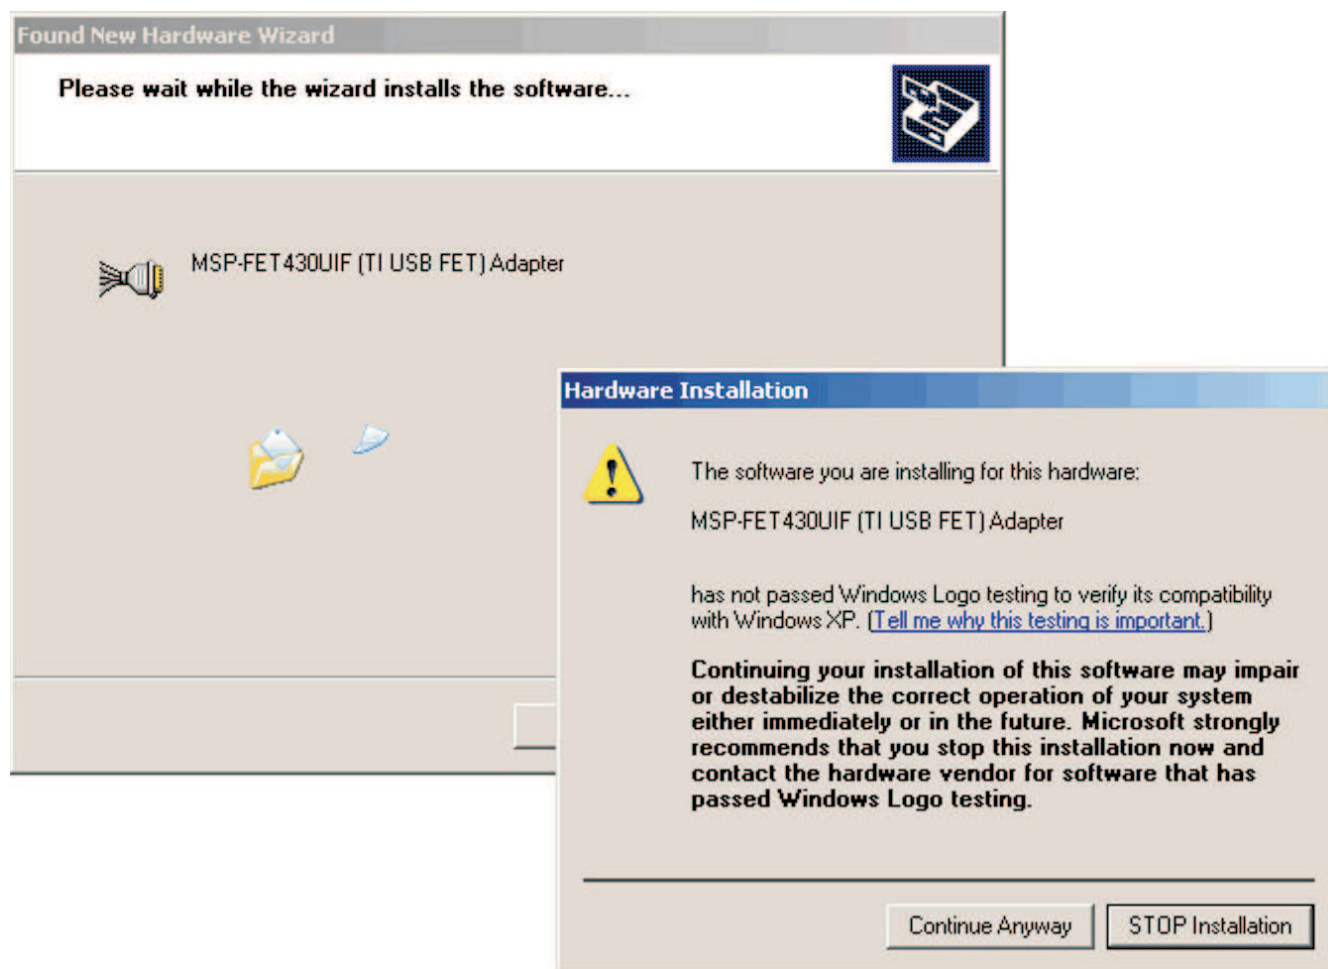

Figure F-4. WinXP Driver Installation
8. Note that Windows may show a warning that the driver is not certified by Microsoft. Ignore this warning and click "Continue Anyway" (see Figure F-4).